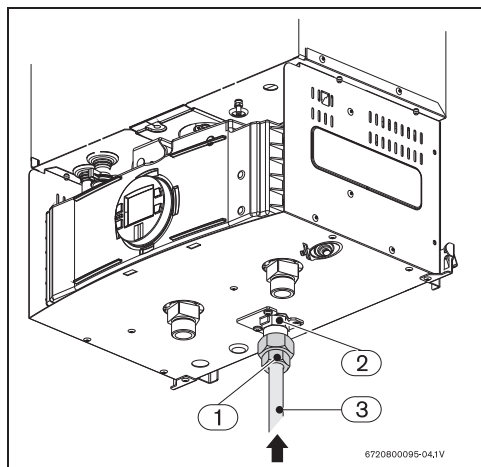

Fig. 26
- Tighten the threaded head of the gas inlet (Fig. 26, [1]) and use the copper (Fig. 26, [2]) extremity to solder the pipe to the main (Fig. 26, [3]).